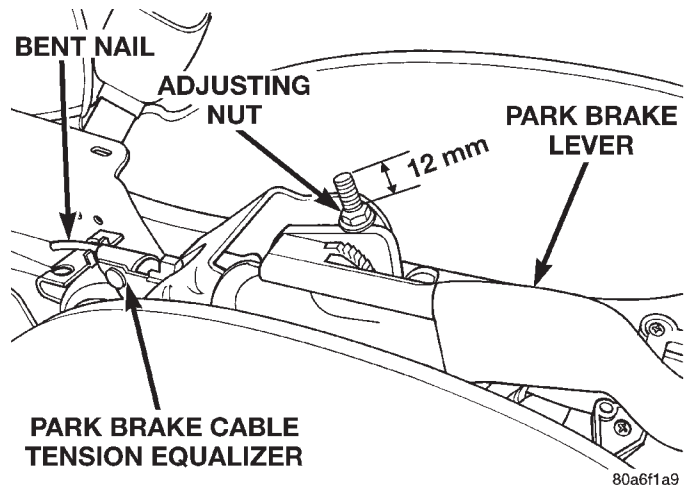

Fig. 166 Parking Brake Adjustment (Rear Drum Brakes)
(16) Adjust cable tension for the parking brake system using the following steps.
- On vehicles with REAR DRUM BRAKES, tighten the adjusting nut on the parking brake lever output cable until 12 mm millimeters of thread is out past top edge of adjustment nut (Fig. 166).